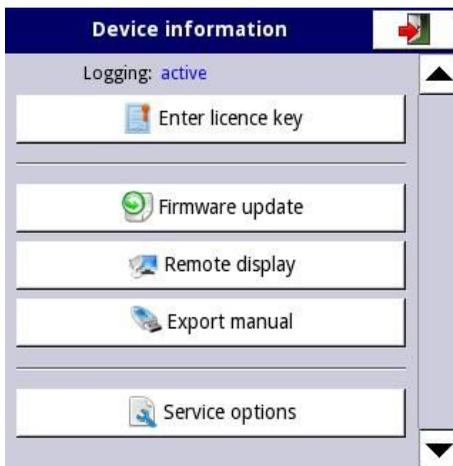

Fig. 7.28. Device information menu
**Enter licence key** button (see Fig. 7.28) allows the user to enter a licence key purchased from the manufacturer (or supplier), enabling additional software options which enhance the functionality of the device. After entering and accepting the licence key the device automatically starts up with new software options (e.g. if the licence key for data logging is entered, the text under the **Licences** heading appears as: **Logging**: the period of validity – see Fig. 7.28).
**Firmware update** button (see **Fig. 7.28**) allows the user to update the device software.
- plug in the flash drive (some high capacity Pendrives are not supported, best choice is a pendrive with 2GB capacity) - start the update process by pressing the **Firmware update** button (see **Fig. 7.28**).
The **Service options** button (see **Fig. 7.28**) allows the user to: